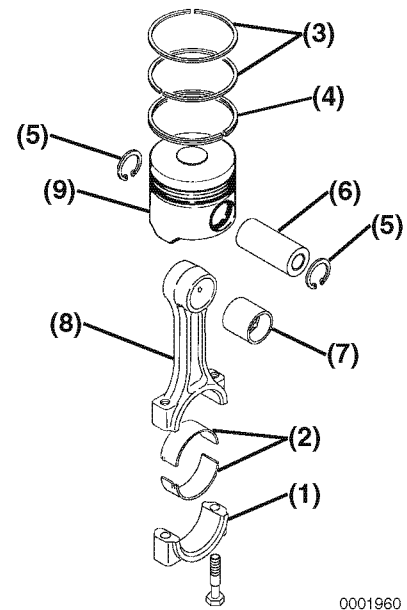

Figure 6-103
5. Remove the bearing inserts (**Figure 6-103, (2)**).
6. Remove the compression rings (**Figure 6-103, (3)**) from the piston using a piston ring expander.
7. Remove the oil ring (**Figure 6-103, (4)**) from the piston using a piston ring expander.
8. Remove the circlips (**Figure 6-103, (5)**) from the wrist pin.
9. Remove the wrist pin (**Figure 6-103, (6)**) and connecting rod (**Figure 6-103, (8)**) from the piston (**Figure 6-103, (9)**).